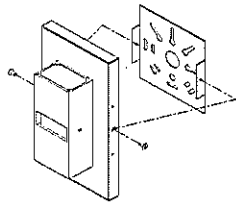

FIG. 1
- Step1: loosen the screws which beside the lens and take down the base plate (FIG.1)